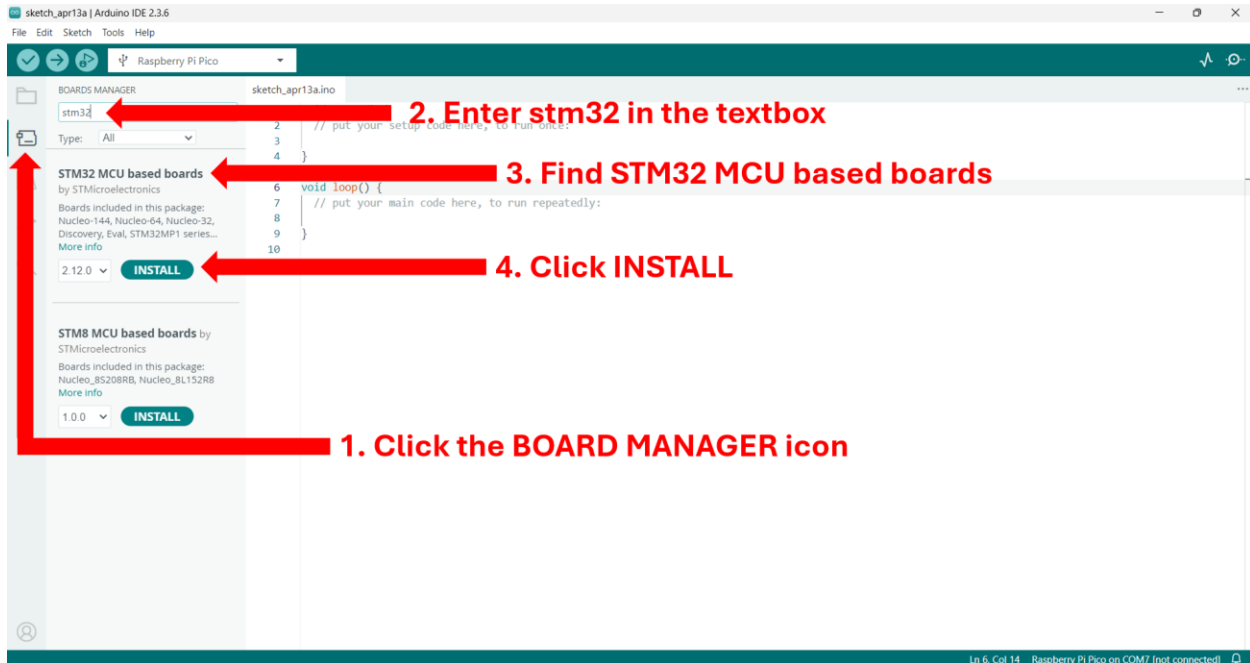

Figure 12
7. Follow the instructions in Figure 12 to install the STM32 board package.